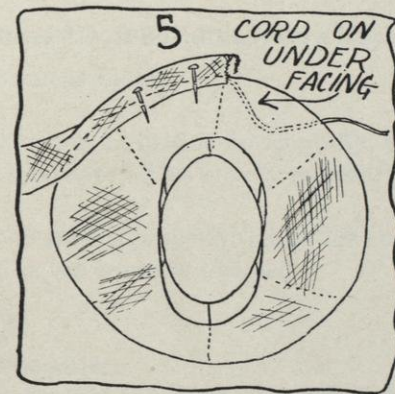

FIG. 5.
- a. Fold the hair braid over the edgewire, as if you were going to put on a raw edge binding. Be sure to put the edge of the hair braid, with the cord in it, in the under facing (see Figure 5).